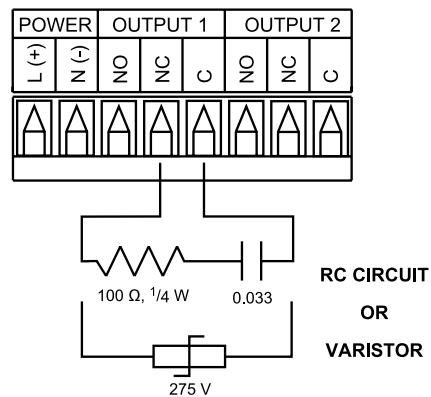

Figure 2.10
If you have an inductive load connected between Common (C) and Normally Closed (NC) contacts of the mechanical relays and you want to protect them from the rush current during the switching period, you have to connect an external snubber circuit between Common (C) and Normally Closed (NC) contacts as indicated in **Figure 2.10**.